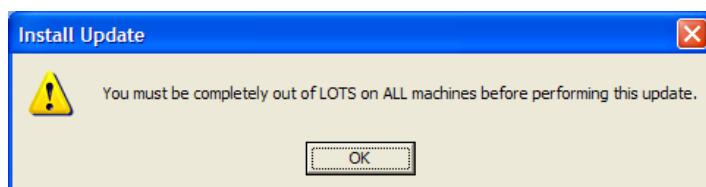

Figure 422
- Install Now** – If you choose 'Install Now', you will be prompted with a warning ensuring that you have performed a backup (see Figure 422).